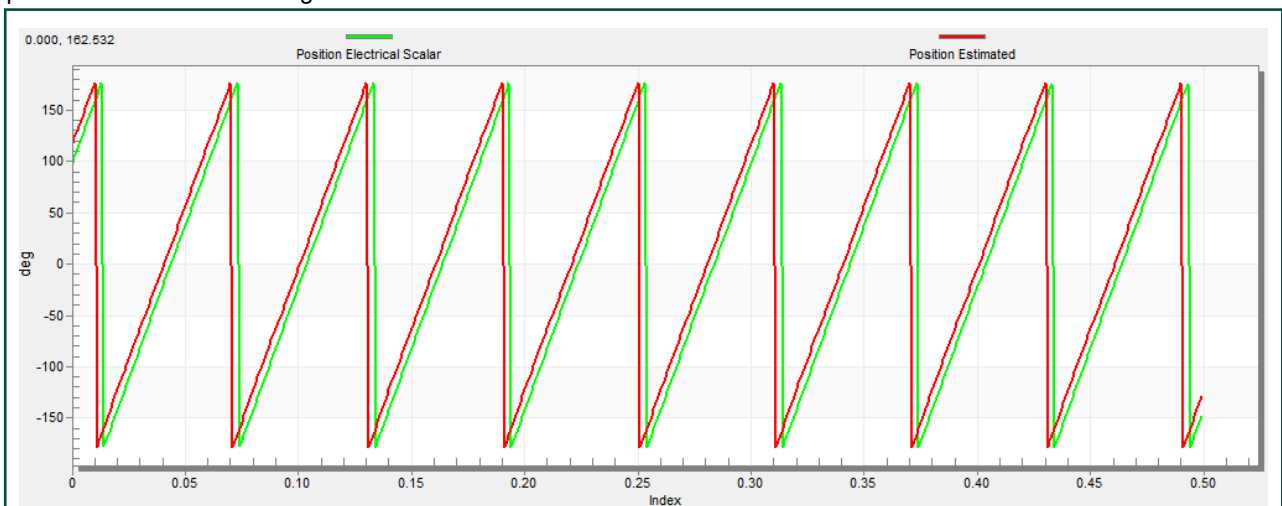

Figure 47. Generated and estimated positions
6. Select the “Position” recorder to check the observer functionality. The difference between the “Position Electrical Scalar” and the “Position Estimated” should be minimal (see Figure 47) for the Back-EMF position and speed observer to work properly. The position difference depends on the motor load. The higher the load, the bigger the difference between the positions due to the load angle.